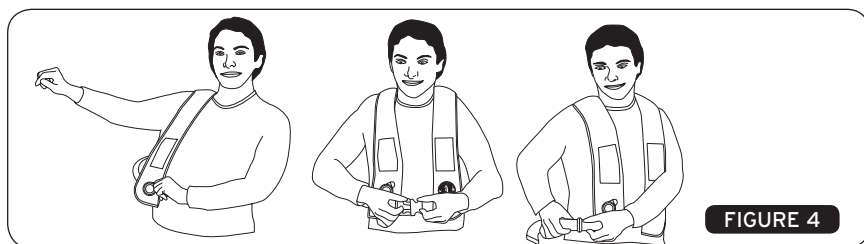

FIGURE 4
2. Put the Inflatable PFD on just like a jacket (Figure 4) and fasten the front buckle.